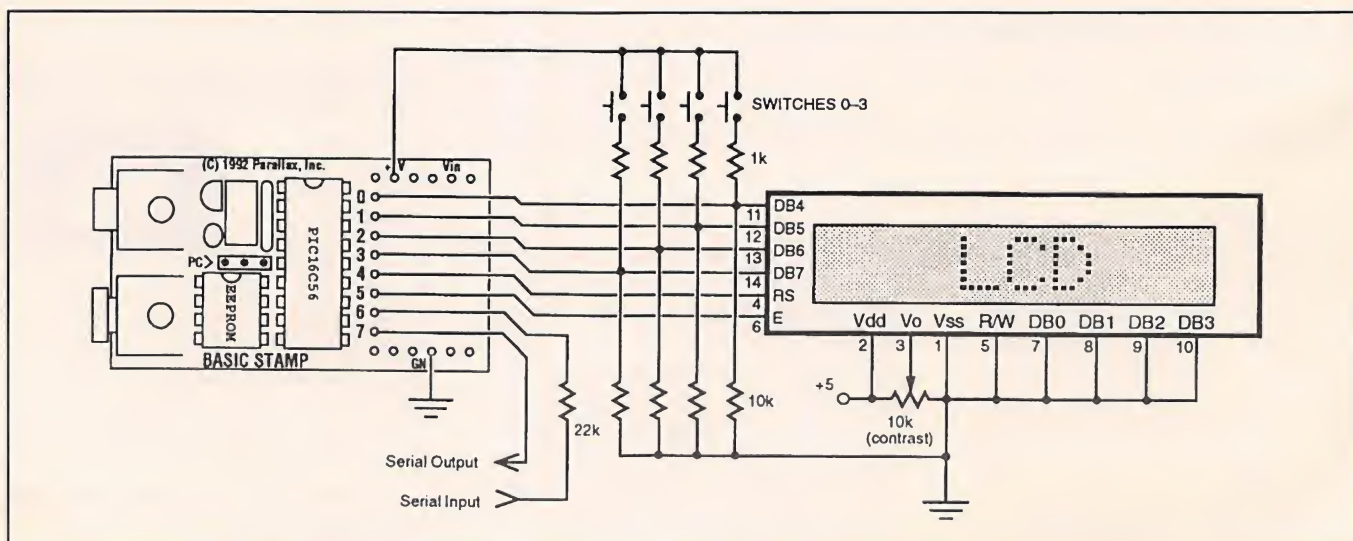

Fig. 5. The Stamp receives serial data, displays it and reports switch closures.
- **Dice Game.** BASIC programmers have always been proud of their ability to write engaging games. In Fig. 5, I offer one of mankind's oldest games of chance—dice—courtesy of the Stamp's RANDOM function. Although this application is meant for fun, some of the techniques used are all business. In Listing 3, pay particular attention to the use of the LOOKUP function to equate the values 1 through 6 to the patterns of pips on the faces of the LED dice. The same approach could drive other types of indicators, including seven-segment displays.